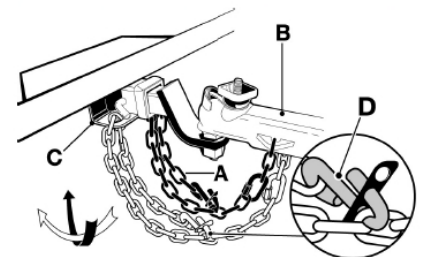

Figure 8
This trailer will have either safety chains or safety cables. Identify which type you have by referring to figure 8 & 10, then follow the instructions below (figures 8-9 or 10-11) for the type you have.
The left chain (A) crosses underneath the trailer tongue (B) and hooks to the right side of the tow vehicle permanent hitch (C), "D"-rings, frame or structure, or to the tow vehicle bumper brackets. (Figure 8) Do not attach chains to the ball or to a ball mount that is removable. The right chain hooks to the left side in the same manner. Crossing the chains under the tongue allows the minimum amount of slack for turning. The "S"-hooks (D) on safety chains can be hooked to the attachment holes on the hitch, if present, or passed through these holes and hooked back to a link in the chain. Control safety chain slack by hooking the chain back to itself or by twisting the links to shorten chain. Be sure the "S"-hooks are secured with a rubber retainer.
Trailers with brakes have a third chain, called the emergency brake chain (E) (Figure 8). This chain applies the brakes automatically in the unlikely event of a separation of the trailer from the tow vehicle. Attach this chain as close to the vehicle center as possible; to the tow vehicle permanent hitch, "D"-rings, frame or structure, or to the bumper brackets. The "S"-hook on this chain should be hooked to an